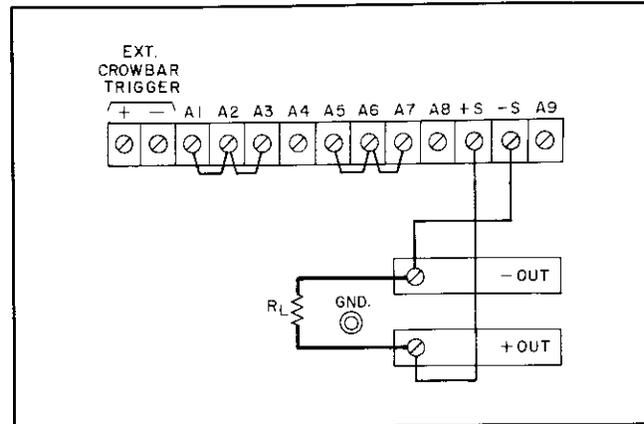

Figure 3-2. Normal Strapping Pattern
a. Turn CURRENT controls (7) and OVERVOLTAGE ADJUST potentiometer (5) fully clockwise and check that rear panel straps are connected as shown in Figure 3-2, but do not connect load R_L .
c. Set LINE switch or circuit breaker (1) ON and observe that pilot lamp (2) lights.
d. Adjust COARSE and FINE VOLTAGE controls (3) for desired indication on voltmeter (4)
e. Ensure that overvoltage crowbar circuit is operational by slowly turning OVERVOLTAGE ADJUST control (5) counterclockwise with a screwdriver until OVERVOLTAGE lamp (6) lights and voltmeter indication drops to zero volts.
g. To check the constant current circuit, first turn off the supply, connect a short across the output bus bars (see Figure 3-2), and turn it back on.
h. Adjust **COARSE** and **FINE CURRENT** controls ⑦ until ammeter ⑧ indicates desired output current or current limit. (The **VOLTAGE** controls must be set for a greater-than-zero output to obtain the output current programmed.)
3-7 This power supply was shipped with the proper rear panel strapping connections made for constant-voltage/constant-current operation with local sensing and local programming. This strapping pattern is illustrated in Figure 3-2. By means of the front panel voltage and current controls, the operator selects either a constant-voltage or a constant-current output. Whether the supply functions in the constant-voltage or the constant-current mode depends on the settings of the voltage and current controls and on the resistance of the output load. For values of load resistance greater than a critical crossover value equal to the voltage setting divided by the current setting, the supply operates in the constant-voltage mode. With a load resistance smaller than this critical value, it operates in the constant-current mode. The transition occurs automatically; no switches need to be operated or connections changed.
3-28 Because of the unavoidable voltage drop developed in the load leads, the normal strapping pattern shown in Figure 3-2 will not provide the best possible voltage regulation at the load. If, for example, one were to use 4-gauge wire to connect a load that is located only 5 feet from a
The +S jumper is the one that links the +S terminal to the +OUT terminal when the supply's terminals are strapped for normal operation as shown in Figure 3-2. The -S jumper is the one that links the -S terminal to the -OUT terminal.